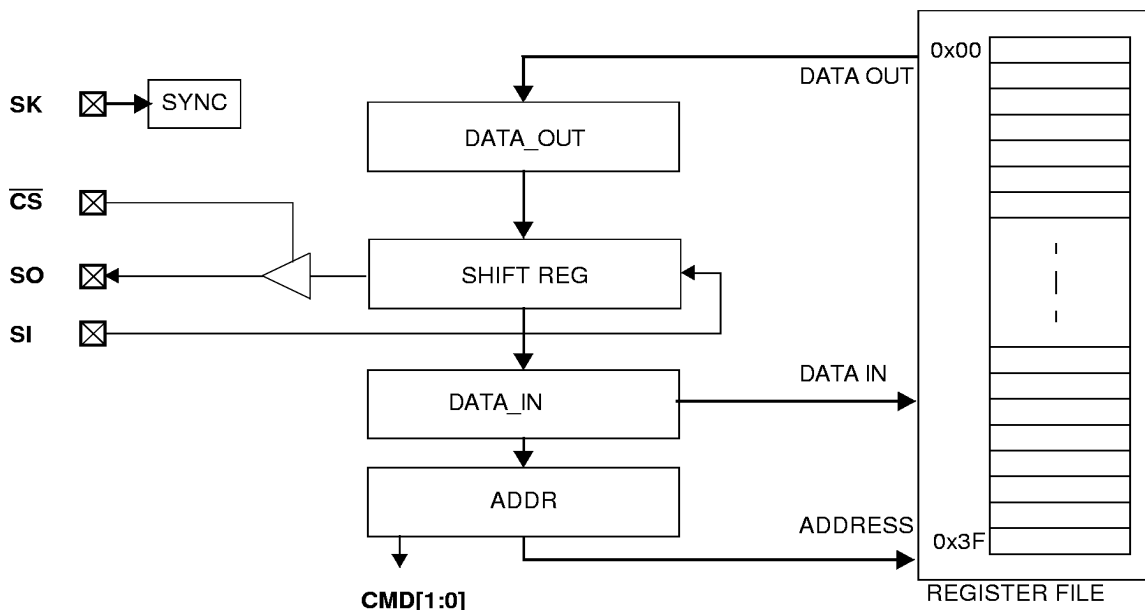

Figure 10. MICROWIRE Interface Block Diagram
The MICROWIRE/PLUS interface allows the USBN9602 IRE/PLUS mode uses pins called chip select (\overline{CS}), serial clock (SK), serial data in (SI), and serial data out (SO), as shown in Figure 10.